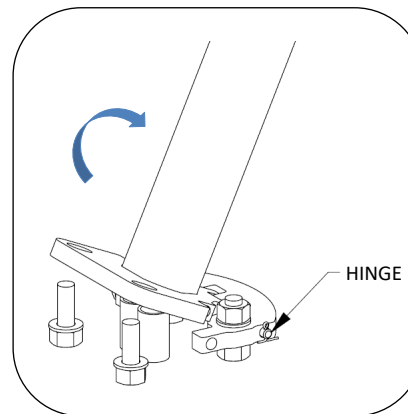

Fig. 6 – rotation of pole
4. Carefully rotate pole to access wiring, see Fig. 6.